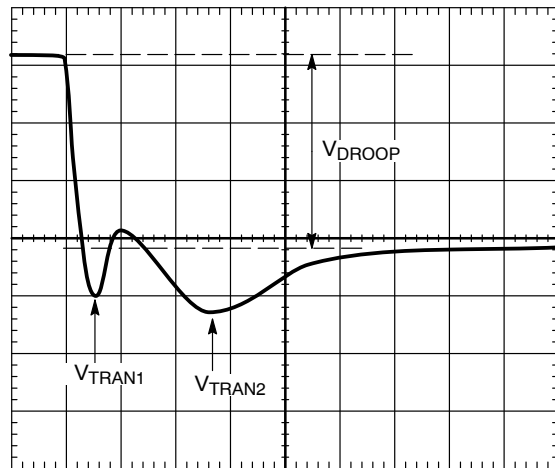

Figure 17. Transient Setting Waveform
18. With the dynamic load still set at the maximum step size, expand the scope time scale to either 2 $\mu\text{s}/\text{div}$ or 5 $\mu\text{s}/\text{div}$. The waveform can have two overshoots and one minor undershoot (see Figure 17). Here, V_{DROOP} is the final desired value.